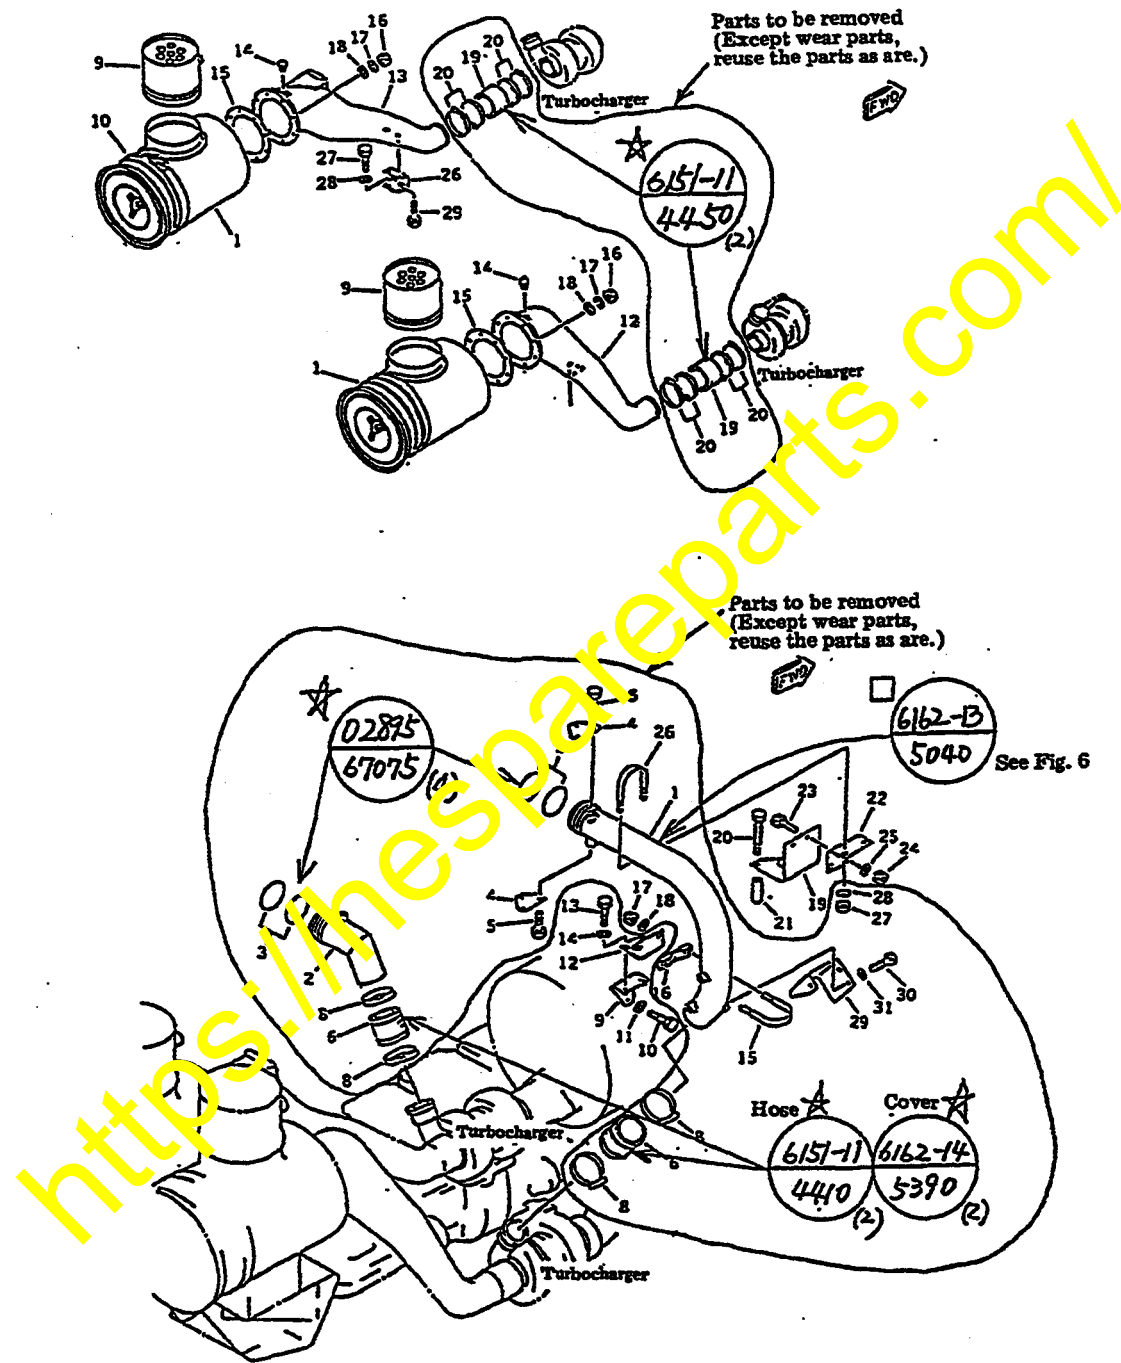

Fig. 1 Intake and exhaust tubes on turbocharger system (1 of 2)
- 2) Disassemble the intake and exhaust tubes on the turbocharger system as shown in Figs. 1 and 2 (on pages 5 and 6).
- 3) Install the intake and exhaust tubes on the turbocharger system as shown in Figs. 1 and 2 (on pages 5 and 6).